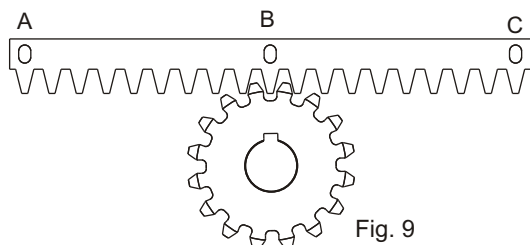
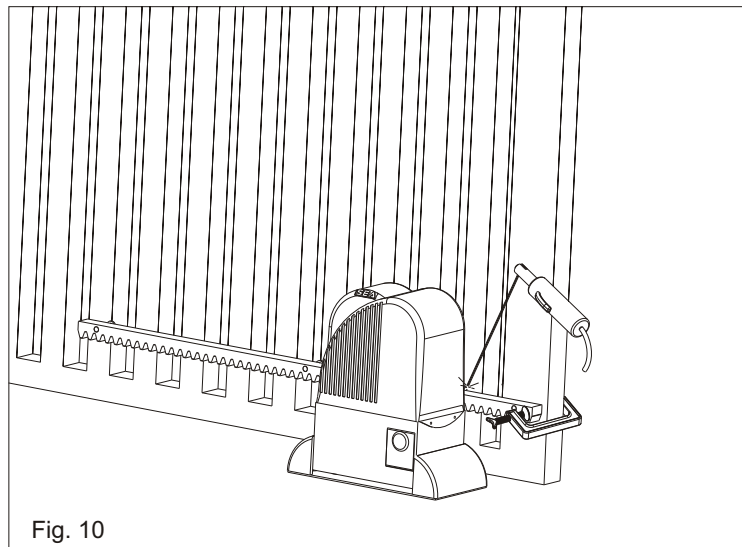

Fig. 9
Fig. 10
**6.3.** Lay the section of rack on the pinion of the operator as in Fig. 9 so that it results parallel to the pavement guide of the gate and tack weld the central bolt B to the gate (Fig. 10). Manually slide the gate to set the bolt C close to the pinion and tack weld them; repeat with bolt A.